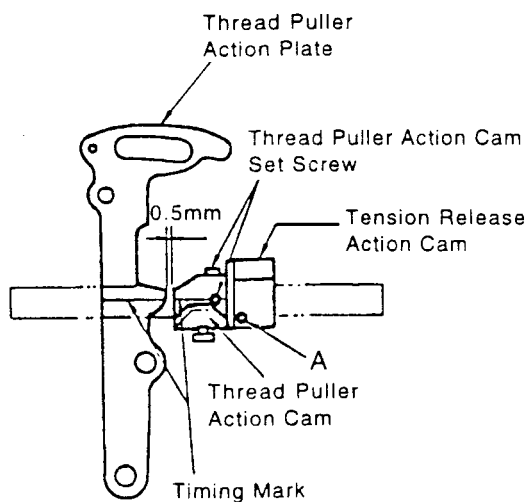

Fig. 53
The clearance between the highest point of thread puller action cam and follower portion of thread puller action plate should be 0.5mm (Fig. 53).
The timing mark on the thread puller action cam must align with the timing mark on the thread puller action plate when distance from top of needle bar connecting stud, needle bar on its downward stroke, to underside of arm at needle end is 66.6mm in "B and G" varieties of 1591D200/210/240 machines, 69.5mm in "B and G" varieties of 1591D300/310 machines and 70.0mm in 1591D318B machine. (Figs. 53 and 54)
1. Loosen two set screws, Fig. 53 and turn the tension release action cam as required.
2. When correct position has been located, firmly tighten the two set screws, Fig. 53 while holding the tension release action cam pressed lightly against the thread puller action cam.